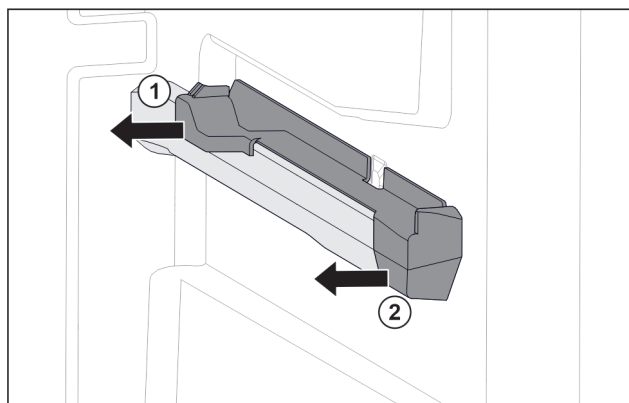

Fig. 92 Attachment on the right moulded rib
- Pull off attachment at the back sideways. Fig. 92 (1)
- Pull off attachment at the front sideways. Fig. 92 (2)